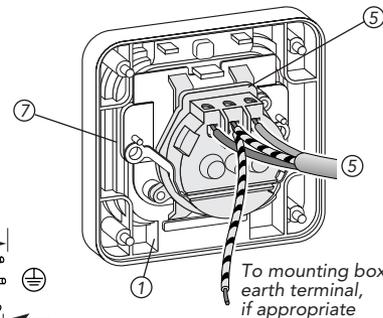

Fig. 3
- The correct wire must be connected to the correct terminal, see figure 3. This product must be connected to earth. Where a mounting box earth is provided, connect a sleeved earth cable from the box earth terminal to the socket earth terminal. Tighten terminal screws securely, ensuring all conductors are clamped.